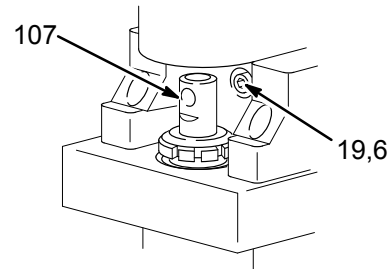
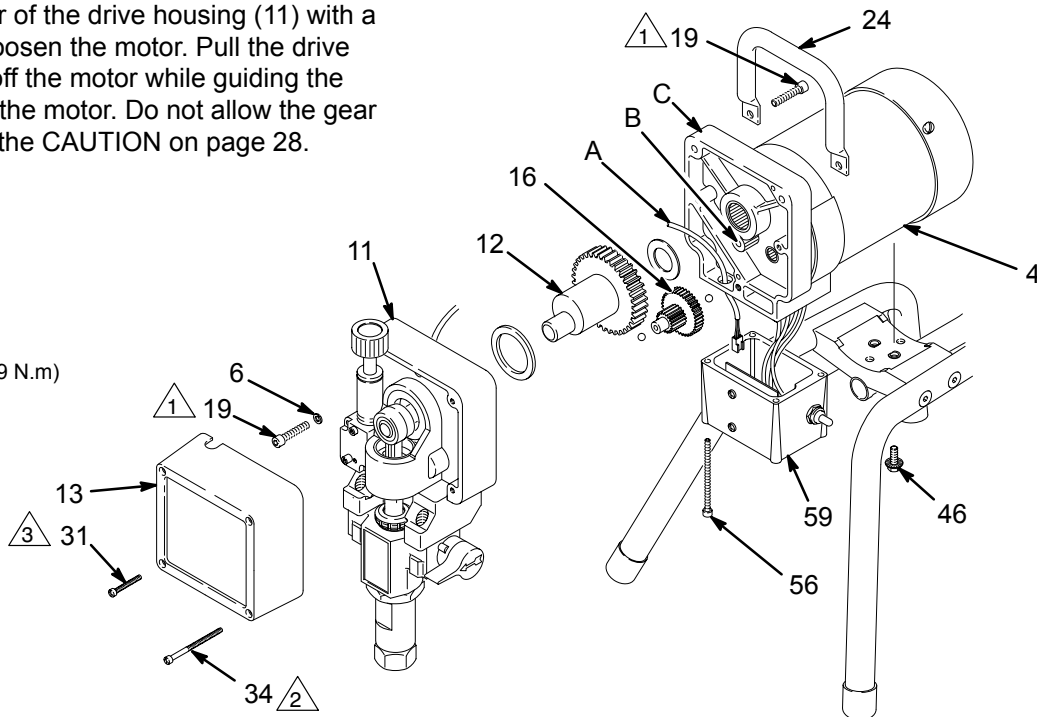
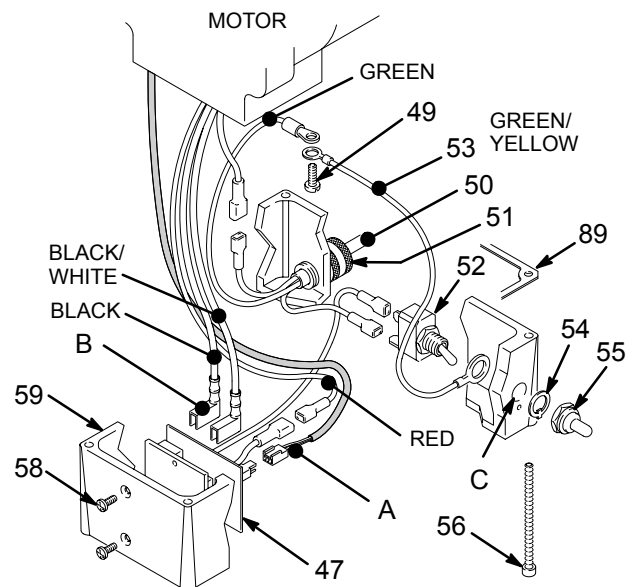

Fig. 25
Fig. 26
Fig. 27
**NOTE:** See Fig. 26 except where noted.
3. Remove the screws (56) and lower the junction box (59). Disconnect the motor wires and the pressure control wire (A) from the motor start board. Refer to Fig. 27 on page 27.
4. Remove the front cover (13).
5. Turn the displacement pump rod (107) so the pin hole aligns with the bottom drive housing screw (19). See Fig. 25. Remove the three drive housing screws and lockwashers (19,6). Also see Fig. 26.
6. Remove the two motor screws (19) and and remove the sprayer handle (24).
7. Tap the lower rear of the drive housing (11) with a plastic mallet to loosen the motor. Pull the drive housing straight off the motor while guiding the harness (A) from the motor. Do not allow the gear (16) to fall. Read the CAUTION on page 28.
8. Remove the two screws (46) and lift the motor off the base (66).
9. Align the new motor with the base and reinstall the screws (46).
11. Connect the wires in the junction box. Refer to Fig. 27 on page 27. Install the junction box.
12. Connect the piston rod (107) to the drive housing; see page 22, **Installing the Pump**, Step 2 and the WARNING following it.
**NOTE:** See Fig. 27 for this procedure.
2. Remove the junction box screws (56) and lower the junction box (59).
3. Disconnect the motor wires (B) and the 3-wire connector (A) from the motor start board (47). Observe where connections are made.
4. Remove the screws (58) and motor start board (47). Transfer the white thermal paste from the old board to the new board.
5. Install the new motor start board. Reconnect all wires. Install the junction box. Be sure no leads are pinched against the motor or by the motor start board. Also be sure the gasket (89) is installed.
3. Disconnect the power supply cord leads, including the green wire to the grounding screw (49).
4. Loosen the strain relief bushing (51). Remove the power supply cord (50).
5. Install the new cord (50) in the reverse order of disassembly.
6. Install the junction box. Be sure no leads are pinched against the motor or by the motor start board. Also be sure the gasket (89) is installed.
3. Remove the nut and rubber boot (55).
4. Disconnect the black wires from the ON/OFF switch (52) and remove the switch.
5. Place the ring terminal of the ground wire (53) over the barrel of the new switch. Install the switch so the internal tab of the anti-rotation ring (54) engages with the vertical groove in the threads of the switch, and the external tab engages with the blind hole (C) of the junction box.
6. Powder the inside of the rubber boot (55) with talcum, then shake the excess out of the boot. Install the nut and rubber boot and tighten.
8. Install the junction box. Be sure no leads are pinched against the motor or by the motor start board. Also be sure the gasket (89) is installed.